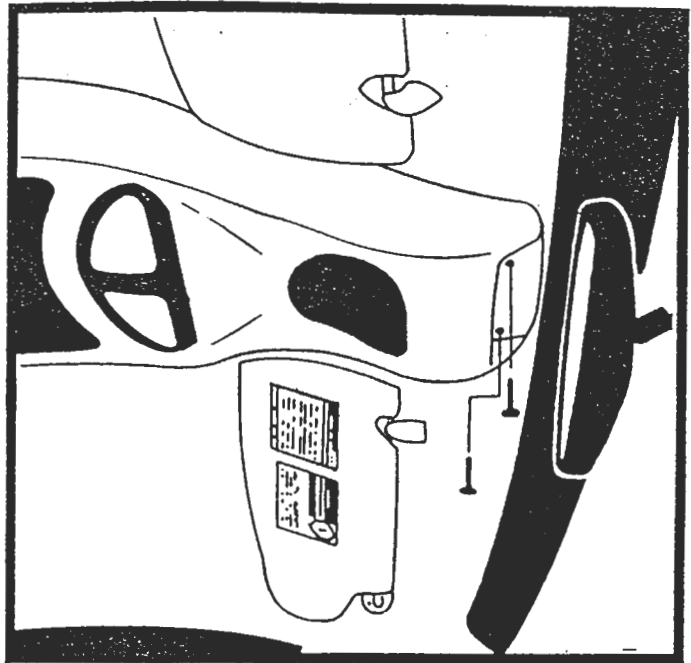

Figure 14
17. Using an awl or similar tool, align the front mounting holes in console with holes in bracket. Secure using (2) two # 8 x 1 ¼" screws (item 3 pg 2). See figure 14.